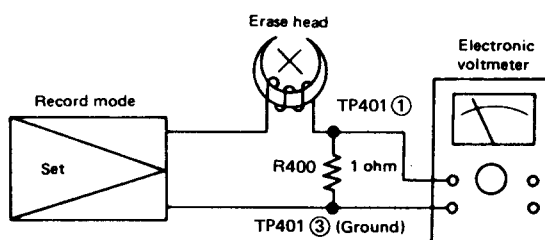

Figure 14-2
- Connect instruments as shown in Fig. 14-2, and check if the erase current is as shown in Table 14-2.